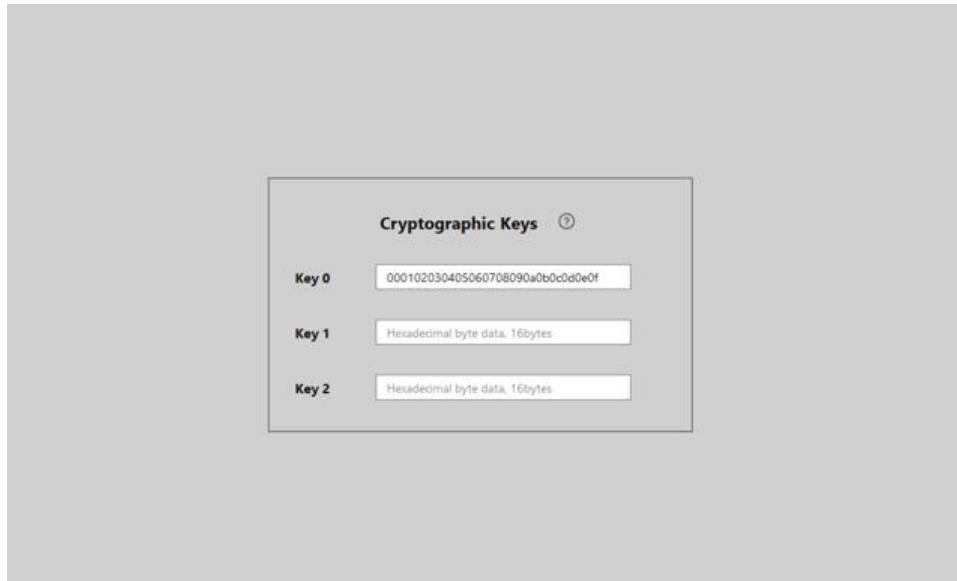

Figure 15 Selection of key and key for AES-EAX
The AES-EAX needs a 16-byte key for the encryption and authentication for each advertising set. There are three keys (key0, key1 and key2) to be chosen from, as shown in Figure 15.
The configuration of the three key is in the "Global Settings as shown in Figure 15. The input box of the corresponding key needs to be filled with hexadecimal data.